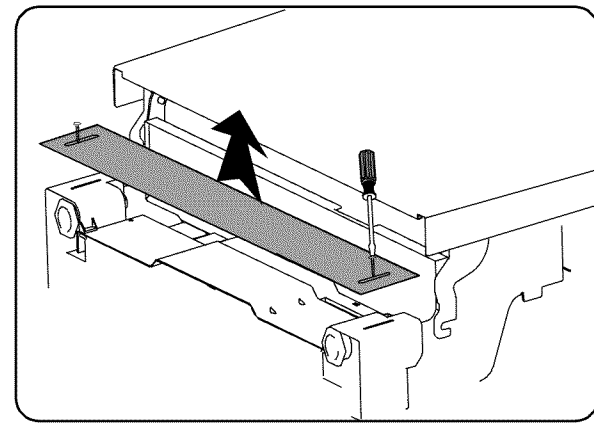

Figure 1a
1. Remove two (2) screws at front of the kickplate using a #2 Phillips screw driver.
2. Tilt and pull forward to remove see figure 1a.